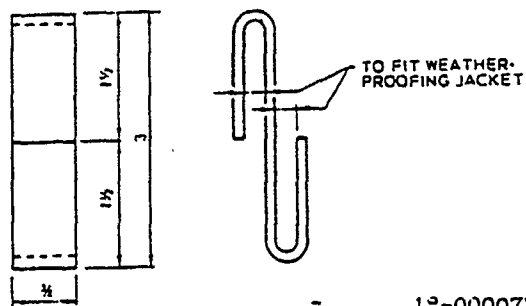

FIGURE 2 . STAINLESS STEEL 'S' CLIP
- b. Use aluminum screws on the longitudinal joint of vertical lines and support each section with a minimum of three "S" clips per Figure 2. In addition, install one aluminum band at the middle of each section and secure to jacket with at least two aluminum screws.